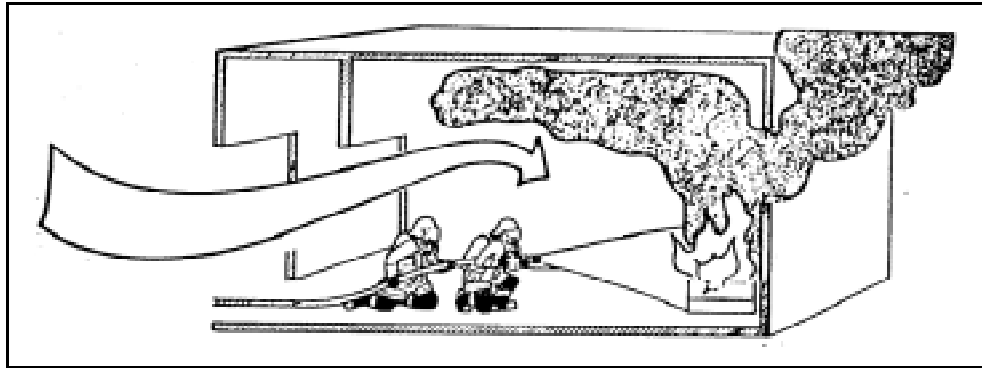

Figure 8-6. Horizontal ventilation
**8-49.** You must consider wind conditions when cross ventilating. If there is no wind or if it is too windy, cross ventilation is not effective. Determine the wind direction and ventilate. First, open the top section of the windows on the leeward side to relieve the smoke and heat pressure. Second, open the lower section of the windows on the windward side to allow cool air to enter. Figure 8-6 shows horizontal ventilation.